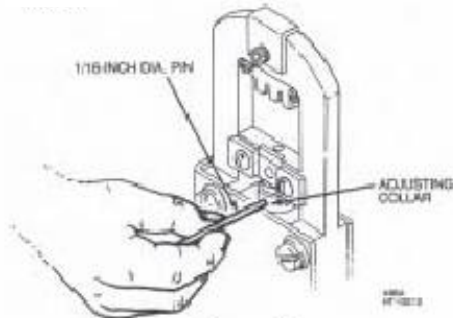

Figure 12
3. Close the hand tool lever one click to gain access to the holes in the side of the adjusting collar. Next, insert a pin approximately 1/16-inch in diameter, into one of the holes in the collar (see Figure 12). Then rotate the collar about 5 degrees counterclockwise to increase crimp height